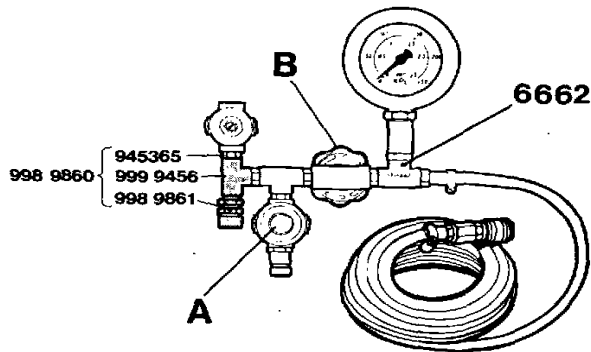

Fig. 175. Fitting of kit 998 9860 on the pressure testing device 6662 (Sweden only)
2. Ensure that the knob on the relief valve (A, fig. 175) is screwed out and connect the hose from the pressure testing device to the cap 6433 or 6441.
4. Connect the pressure testing device 6662 to the compressed air system and open the cock (B).
5. Pull out the lock ring on the relief valve wheel. Increase the pressure by screwing the knob inwards until the pressure gauge reads 70 kPa (0.7 kp/cm2/10 p.s.i.). Lock the knob (B).